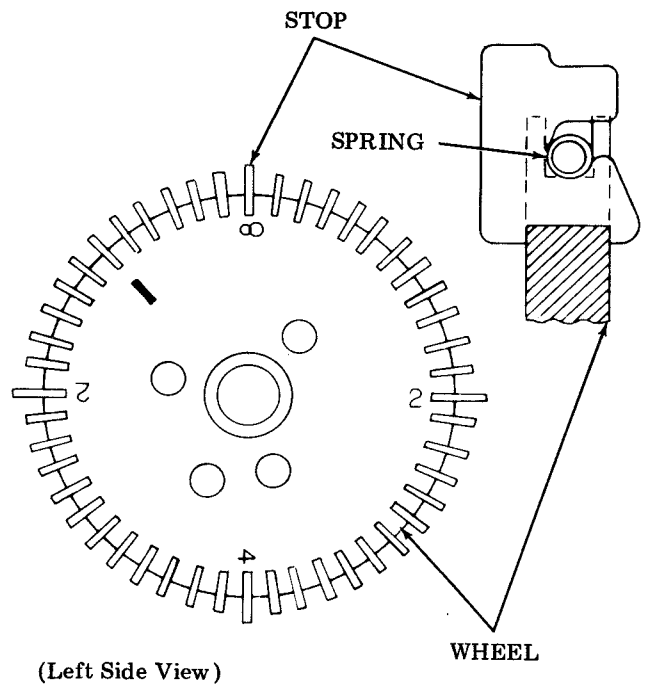

Figure 16 - Form-Out Positioning
4.23 Before operating a set equipped with vertical tabulation and/or form-out, check to see if the required stops for the form length have been added. All units are shipped from the factory with only the stop for the longest form length. Extra form-out stops are provided in a bag tied to the typing unit. They are to be installed if a form length shorter than the wheel length was ordered. For example: on an 8-, 4-, 2-inch wheel (Figure 16), if a 4-inch form is used, no action is necessary. If a 4-inch form is used, a form-out stop must be inserted in the slot marked 4. For 2-inch forms, insert form-out stops in slot marked 4 and slot marked 2.